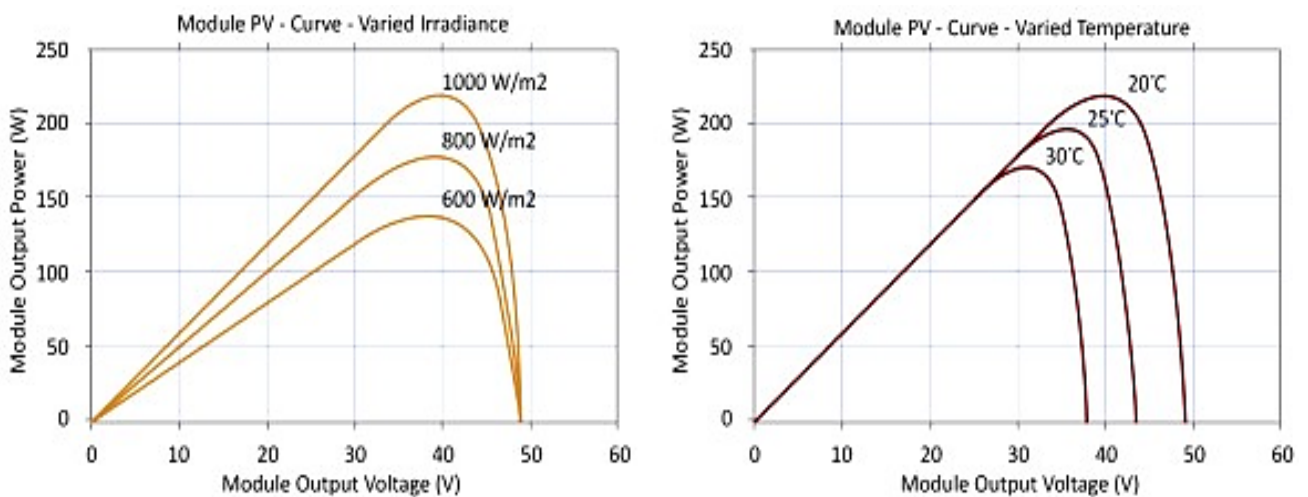

Fig. 6. P-V curve of a solar module
- A **P-V curve** is plotted between power of a solar PV module on Y-axis and voltage of a PV module on x-axis. The following figure 6, shows a typical P-V curve of a solar PV module.